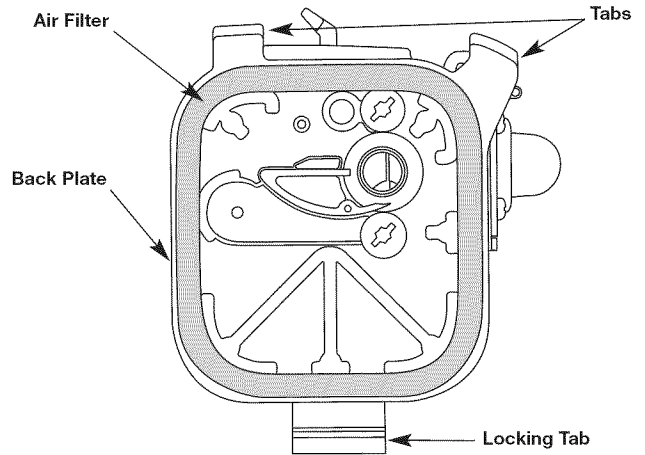

Fig. 24
2. Remove the air filter (Fig. 24).
- Replace the filter (Fig. 24).